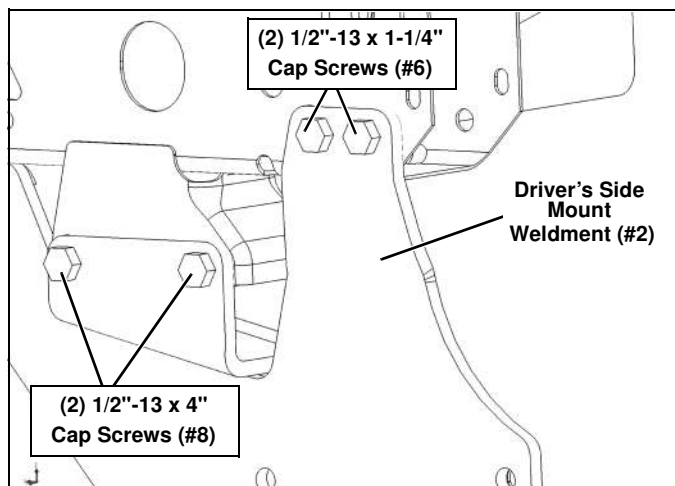

Figure 3
5. Hold the Driver's Side Mount Weldment (#2) to the driver side frame rail. Align the two front holes and two middle holes with the holes in the frame. (See Figure 3.)
6. In the front holes, attach using (2) 1/2"-13 x 1-1/4" Cap Screws (#6) and (2) 1/2"-13 Locknuts (#10). (See Figure 3.)
7. In the middle holes, attach using (2) 1/2"-13 x 4" Cap Screws (#8) and (2) 1/2"-13 Locknuts (#10). (See Figure 3.)